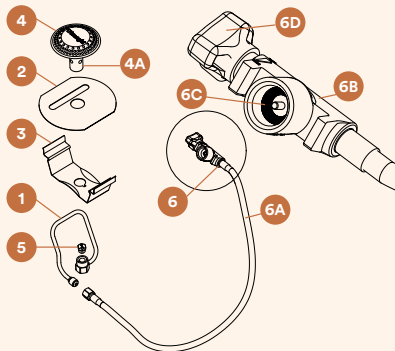
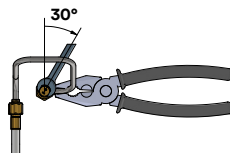
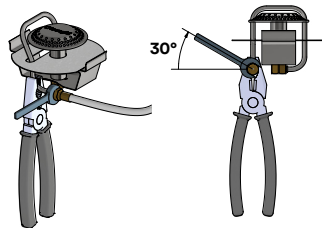

Figure 6 & Table 4. Components
Figure 7
Figure 8
- 3.4 Check that the seals (between the appliance and the gas cartridge) are in place and in good condition before connecting to the gas cartridge, see 6C in figure 6. Connect the gas cartridge outside and away from people and open fire.
- 5.1.2 Do not use the whole preheating tube (1 in figure 6) as a lever during service as this might damage the tube. Hold the end of the tube with pliers for better grip.
- 5.2.1 Check that the O-ring in the valve (6C in figure 6) is in good condition.
- Replace/tighten the hose to the preheating tube using a 10 mm open spanner. If the hose is loose, screw by hand to stop and additionally 30° (=3-4 Nm). Do not use the whole pre heating tube (1 in figure 6) as a lever as this might damage the tube. Hold the end of the tube with pliers, see figure 8.
- 5.4.3 Unscrew the burner top (4 in figure 6). Hold the mixer tube (4A in figure 6) with pliers for better grip. Do not damage the holes in the mixer tube. Never use the whole pre heating tube (1 in figure 6) as lever.
- 5.4.4 Unscrew the jet (5 in figure 6) from the valve using an 8 mm open spanner. Hold with pliers at the housing or at the end of the preheating tube close to the housing, see figure 7.
- 5.4.6 Refit the jet and screw it tightly. To ensure a gas seal, screw by hand to stop and additionally 30° (=3-4 Nm). Hold with pliers at the end of the preheating tube close to the housing, see figure 7.